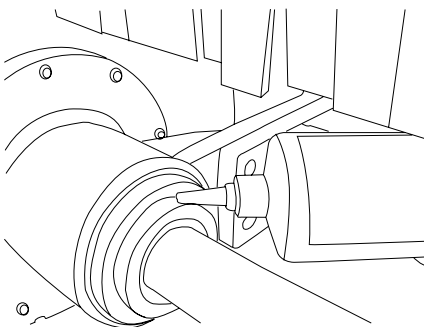

Figure 22
7. Ensure there are no burrs on the shaft between the end of the shaft and the end of the housing. Use a file if necessary. Use loctite 243 (or equivalent) and apply a small bead around the outside of the seal [Figure 22].